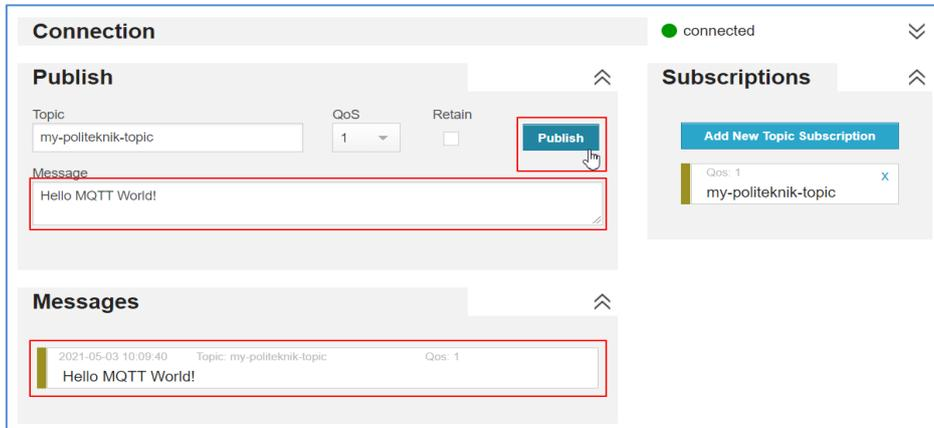

Figure B7
- Publish a message, by adding a message (for example: Hello MQTT World!) into the Message area and click the **Publish** button. You will receive the message on the Messages section as in Figure B7. Print screen the layout from your WebSocket Client Showcase and paste in Table 2 as a result.